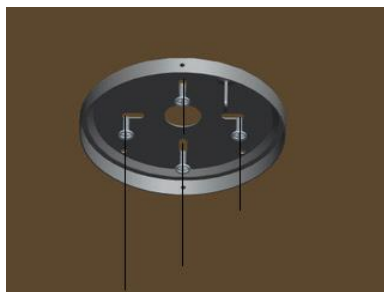

Fig 2.1
**Option 1:** Fasten the mounting plate with the ST5×24 wood setscrews (included) when securing to the wooden ceiling beam or support structure with an approved electrical outlet box as shown in Fig 2.1.